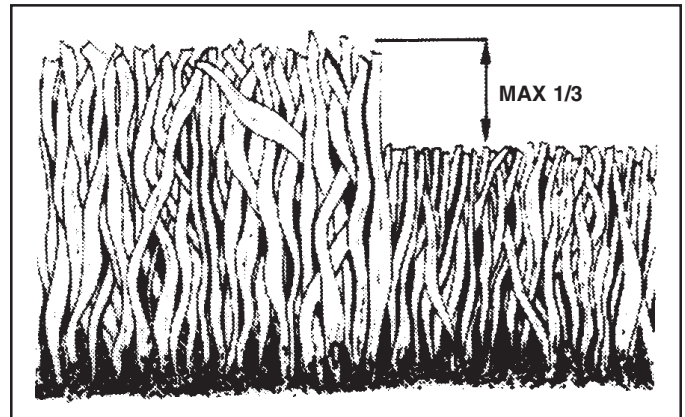

FIG. 6
- For best results, adjust the lawn mower cutting height so that the lawn mower cuts off only the top one-third of the grass blades (See Fig. 6). If the lawn is overgrown it will be necessary to raise the height of cut to reduce pushing effort and to keep from overloading the engine and leaving clumps of mulched grass. For extremely heavy mulching, reduce your width of cut by overlapping previously cut path and mow slowly.